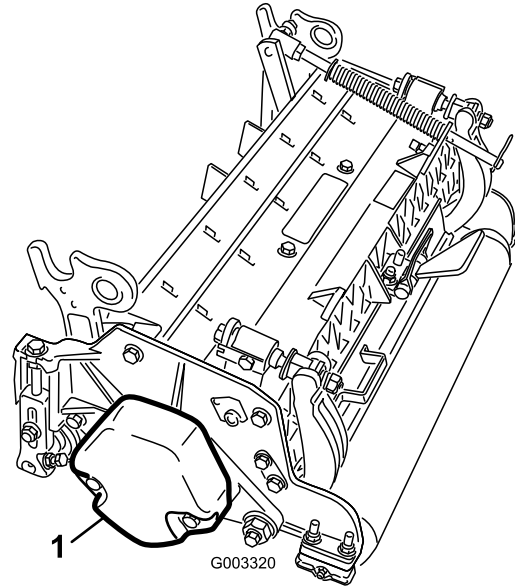

Figure 3
4. Ensure that the counterweight (Figure 3) is installed to the proper end of the cutting unit as described in the counterweight *Installation Instructions*.